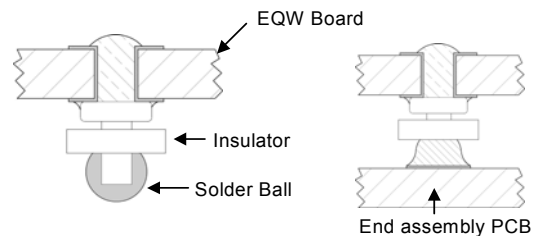

Figure 17. Column Pin Connector Before and After Reflow Soldering.
The surface mountable modules in the EQW family use our newest SMT technology called "Column Pin" (CP) connectors. Figure 17 shows the new CP connector before and after reflow soldering onto the end-board assembly.